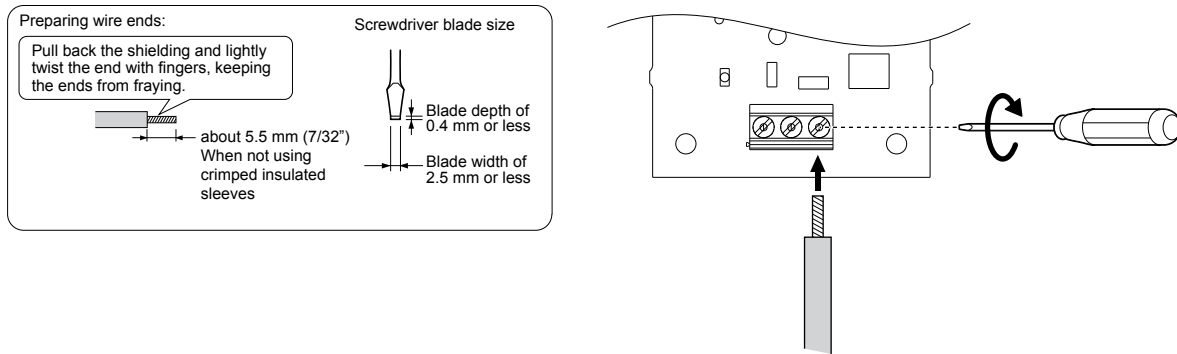

Figure 3.57 Wire the Option Plug
2. Use a flat-blade screwdriver to loosen the screws on the terminal block TB1, connect wiring to the 24, 0, and FE terminals as shown in Figure 3.57, then tighten the terminal screws to hold wiring in place. Refer to Table 3.26 to confirm that the proper tightening torque is applied to each terminal. Take particular precaution to ensure that each wire is properly connected and wire insulation is not accidentally pinched into electrical terminals.